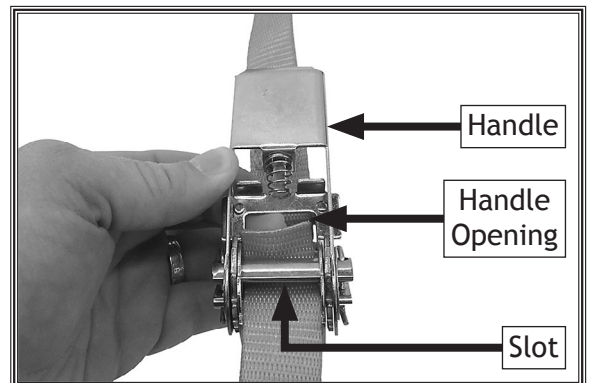

Figure 2. Nylon webbing pushed through slot and ratchet handle opening.
1. Slide open end of nylon webbing through slot on ratchet assembly (see Figure 2).
2. Push webbing up and through handle opening on ratchet assembly (facing toward you) so webbing can double over itself in Step 4 (see Figure 2).